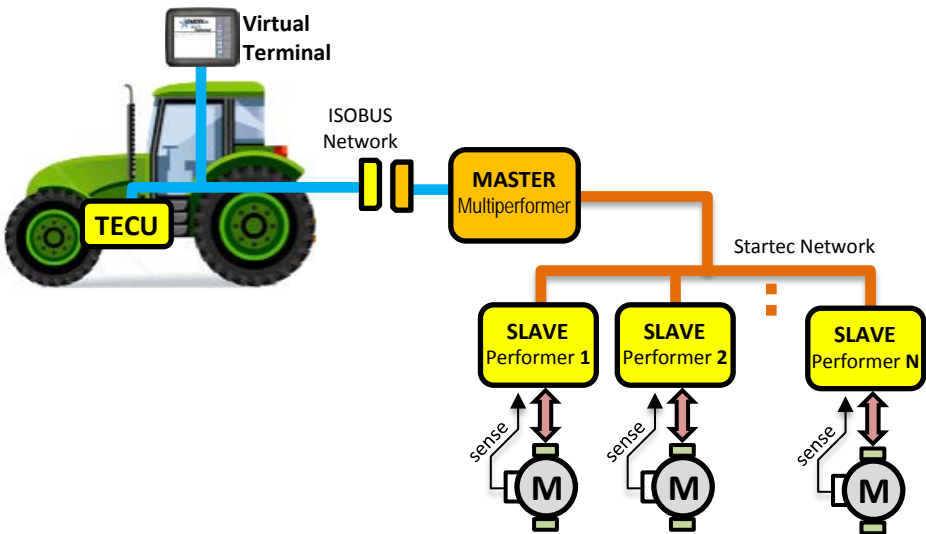

Figure 1: Multiperformer connection layout
- FIGURE 1: MULTIPERFORMER CONNECTION LAYOUT 2